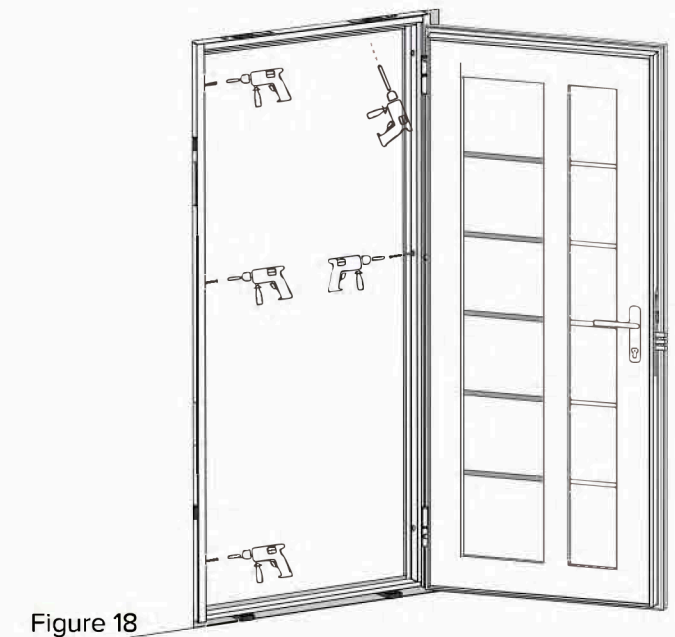

Figure 18
3.15. Fasten the anchors, but not completely (figure 18).